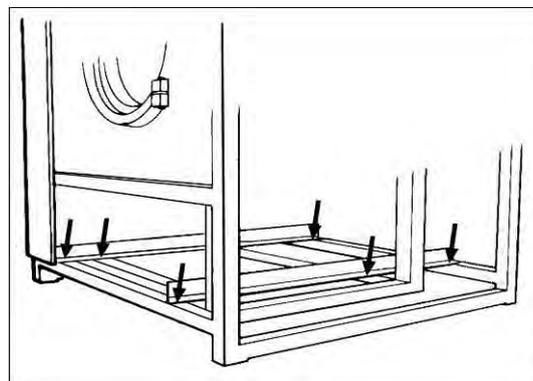

Fig. 2.8
- Locate on the chassis base the two yellow fixing profiles and dismantle them. The profiles are secured with screws (Fig. 2.8).